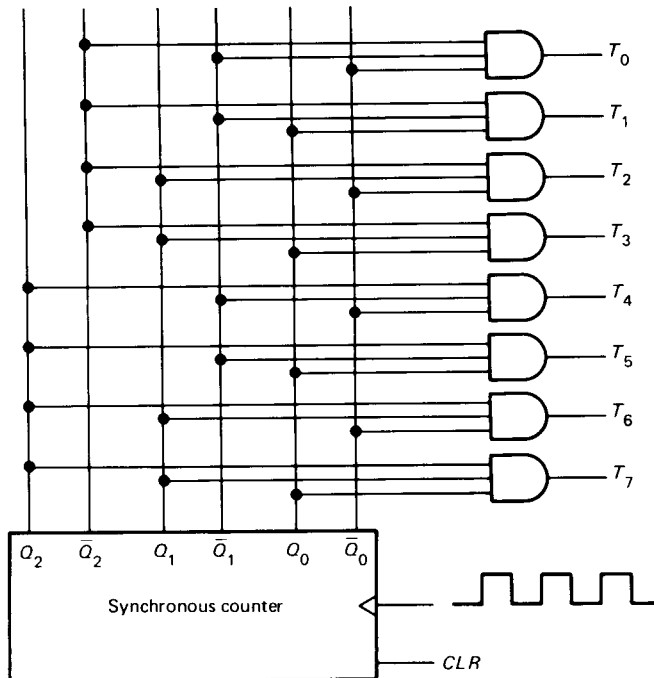

Fig. 8-32
- 8-12. Figure 8-32 shows another way to produce ring words. After the circuit is cleared,
- 8-13. If the clock frequency is 5 MHz in Fig. 8-32, how long does it take to produce all the ring words? How long is each timing bit high?